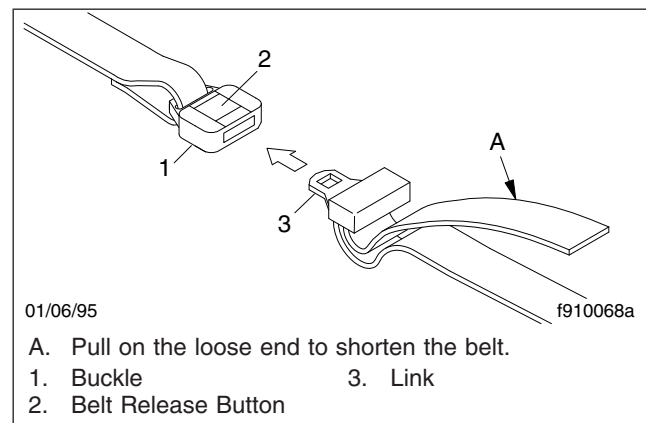

Fig. 7.12, Bunk Restraint Adjustment
3. After the belt is connected, shorten it by pulling on the loose end until the belt is snug, but comfortable. Be sure the belts are not twisted. See Fig. 7.12.